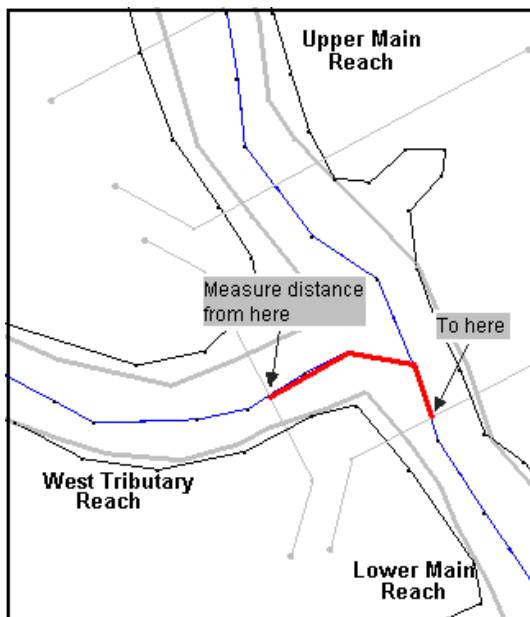

Figure 7 Measuring Junction Lengths
7. As shown in the example in Figure 7 below, click along the lines to trace the distance along the centerline arc between the most downstream cross section arc on the West Tributary reach and the most upstream cross section arc on the Lower Main reach. Double click to end the measurement. Note the length displayed in the lower left hand corner of WMS for future use.